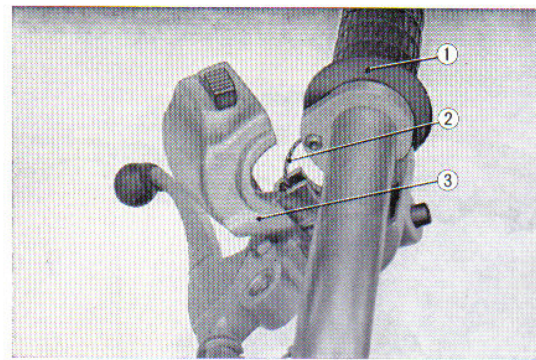

Fig. 4.5 Removing the throttle cable
- ① Handlebar cable
- ② Throttle cable
- ③ Electrical leads
3. To remove throttle cable from the handle lever, unscrew the setting screw on the starter switch assembly and separate the two halves of the starter switch. The starter cable will be exposed and can be removed from throttle grip pipe. (Fig. 4.5)